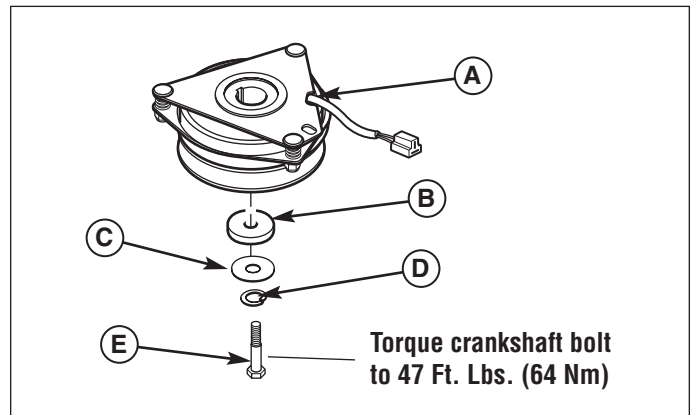

Figure 1. Correct Assembly of Crankshaft Hardware
1. Inspect the crankshaft bolt (E, Figure 1) for washers (C, D) as shown in illustration, if present no further action is required. If washers are not found, order and install lock and flat washer on the crankshaft bolt and torque to 47 ft/lbs.